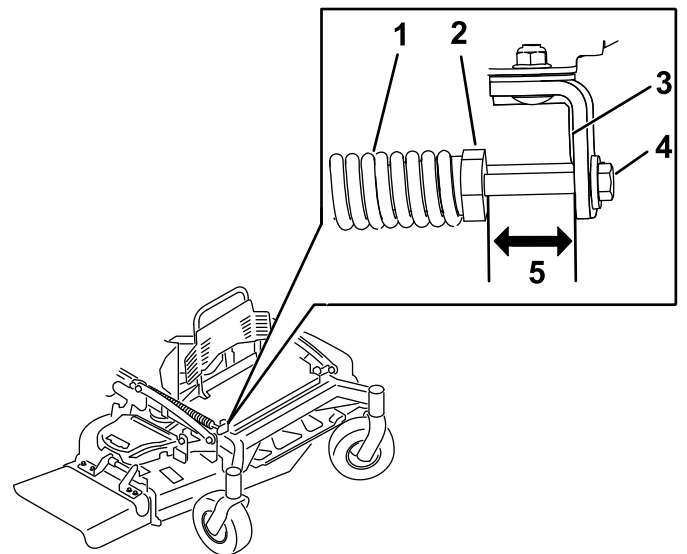

Figure 85
2. Check the distance between the spring nut and the rear side of the welded mount bracket (Figure 85).
3. Ensure that the length is 51mm (2 inches) for 48/52in decks, and 38mm (1.5 inches) for 60in decks as shown in Figure 85.
4. If needed, adjust the distance by adjusting the bolt on the front of the mount bracket (Figure 85).